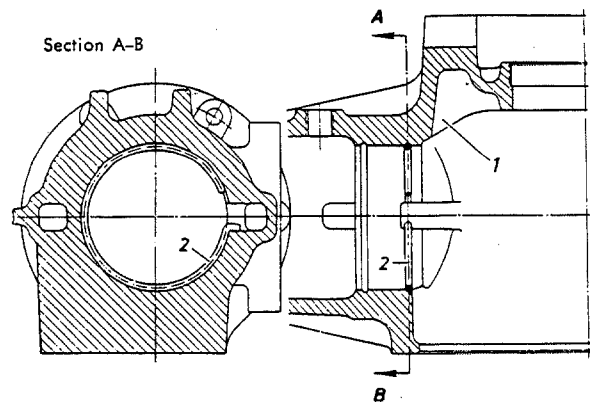

Fig. H 3/36
36. Install rear snap ring with hook into the housing watching out for proper seat. The hook must engage the groove cast into the housing (Fig. H 3/36).